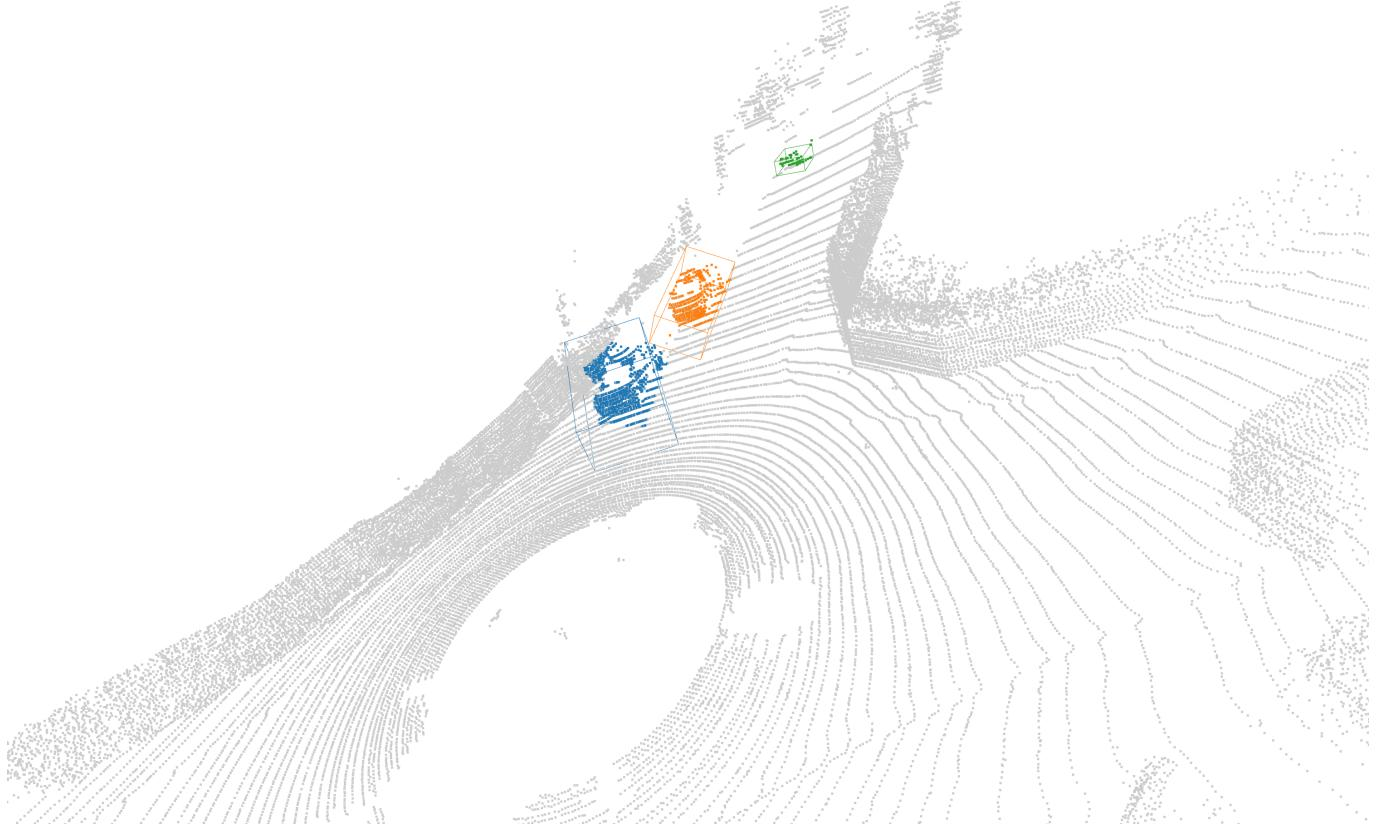

Figure 3: Part D output for frame 250.
Expected Output: For each detection from Part C, produce a 3D box and two visualizations: (1) 2D image with the wireframe of the projected 3D box over the detection, (2) 3D scene with boxes around clusters. Figure 3 shows the output for frame 250.